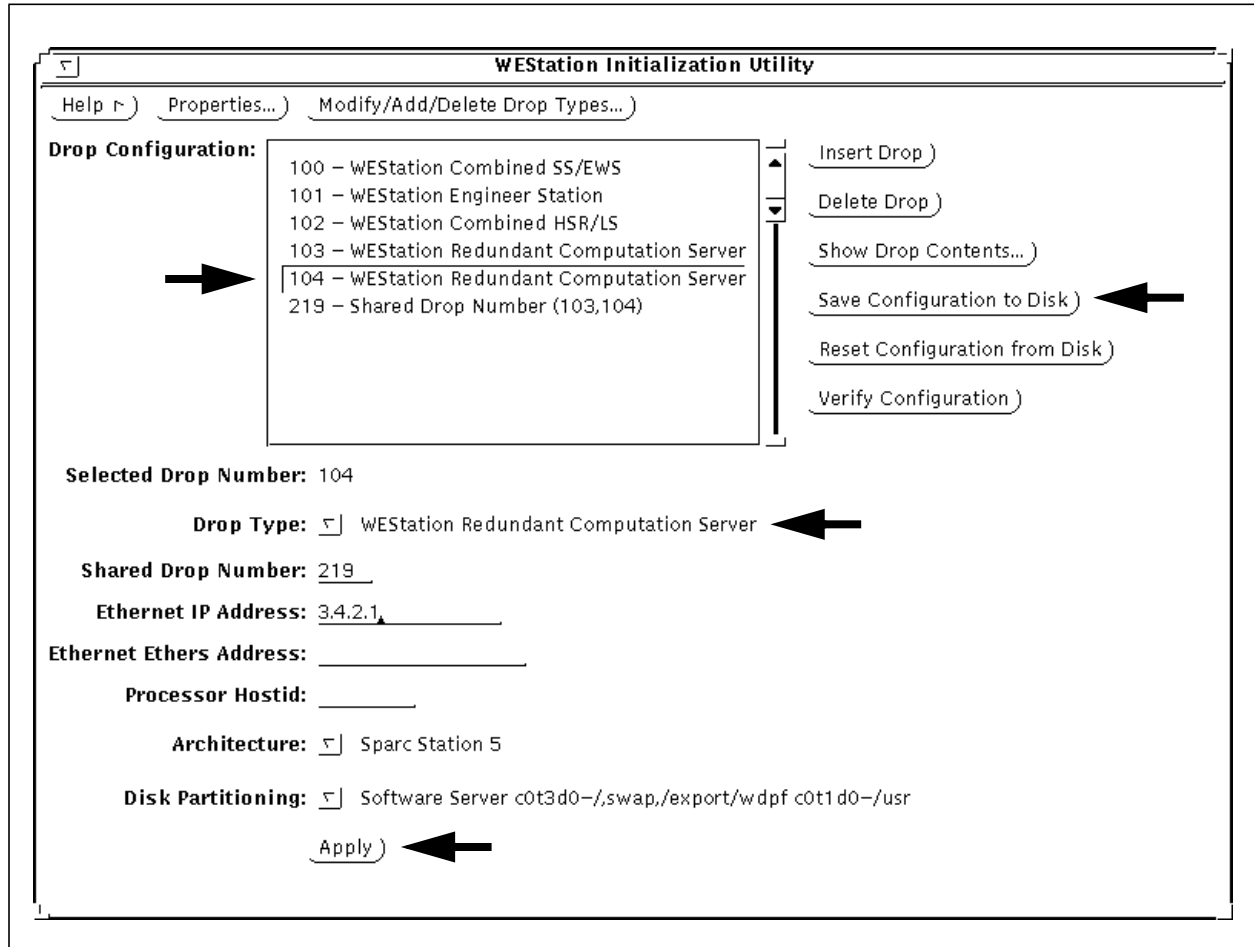

Figure A-1. WDPF Init Tool Main Window
1. Use the mouse to open the **WDPF Init Tool** icon from the Engineering WEStation screen. The WEStation Initialization Utility main window appears (see Figure A-1).
1. Use the mouse to open the **WDPF Init Tool** icon from the Engineering WEStation screen. The WEStation Initialization Utility main window appears (refer to Figure A-1).
- Use the mouse to open the **WDPF Init Tool** icon from the Engineering WEStation screen. The WEStation Initialization Utility main window appears (refer to Figure A-1).